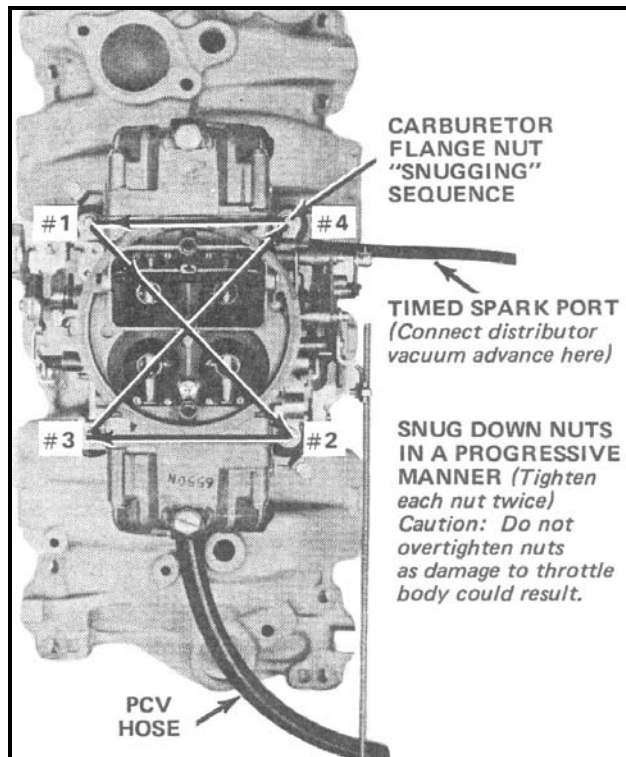

Figure 3
11. Install the carburetor holddown nuts and snug nuts progressively in a "criss-cross pattern" (See figure 3). **WARNING:** Overtightening may result in warped or cracked throttle bodies and/or binding throttle action resulting in an unstable return-to-idle.